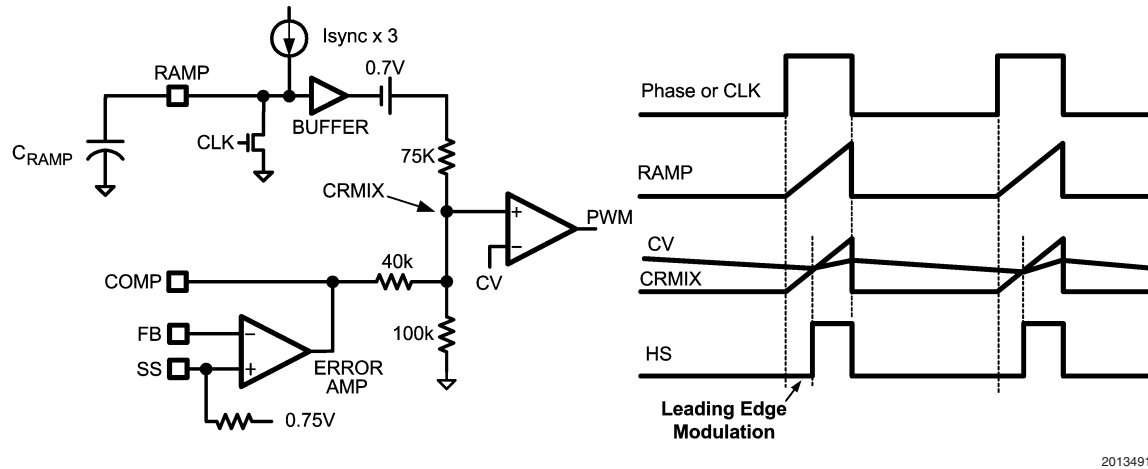

FIGURE 4. Synchronization and Leading Edge Modulation
the capacitor connected to the RAMP pin as shown in *Figure 4*. The ramp signal and the output of the error amplifier (COMP) are combined through a resistor network to produce a voltage ramp with variable dc offset (CRMIX in *Figure 4*). The high side MOSFET which drives the HS pin is held in the off state at the beginning of the phase signal. When the voltage of CRMIX exceeds the internal threshold voltage CV, the PWM comparator turns on the high side MOSFET. The HS pin rises and the MOSFET delivers current from the main converter phase signal to the output of the auxiliary regulator. The PWM cycle ends when the phase signal falls and power is no longer supplied to the drain of the high side MOSFET.
of the sense amplifier is nominally equal to 16. The current sense output signal is shifted by 1.27V to produce the internal CV reference signal. The CV signal is applied to the negative input of the PWM comparator and compared to CRMIX as illustrated in *Figure 4*. Thus the PWM threshold of the voltage mode controller (CV) varies with the instantaneous inductor current.
Current limiting is implemented through the current sense amplifier as illustrated in *Figure 6*. The current sense amplifier monitors the inductor current that flows through a sense resistor connected between CS and VOUT. The voltage gain of the current sense amplifier is nominally equal to 16. The output of current sense signal is shifted by 1.27V to produce the internal CV reference signal. The CV signal drives a current limit amplifier with nominal transconductance of 16mA/V. The current limit amplifier has an open drain (sink only) output stage and its output pin CO is typically connected to the COMP pin. During normal operation, the voltage error amplifier controls the COMP pin voltage which adjusts the PWM duty cycle by varying the internal CRMIX level (*Figure 4*). However, when the current sense input voltage V_{CL} exceeds 45mV, the current limit amplifier pulls down on COMP through the CO pin. Pulling COMP low reduces the CRMIX signal below the CV signal level. When CRMIX does not exceed the CV signal, the PWM comparator inhibits output pulses until the CRMIX signal increases to a normal operating level.
Both drivers are controlled by the PWM logic signal from the PWM latch. When the phase signal is low, the outputs are held in the reset state with the low side MOSFET on and the high side MOSFET off. When the phase signal switches to the high state, the PWM latch reset signal is de-asserted. The high side MOSFET remains off until the PWM latch is set by the PWM comparator (CRMIX > CV as shown in *Figure 4*). When the PWM latch is set, the LO driver turns off the low side MOSFET and the HO driver turns on the high side MOSFET. The high side pulse is terminated when the phase signal falls and SYNC input comparator resets the PWM latch.